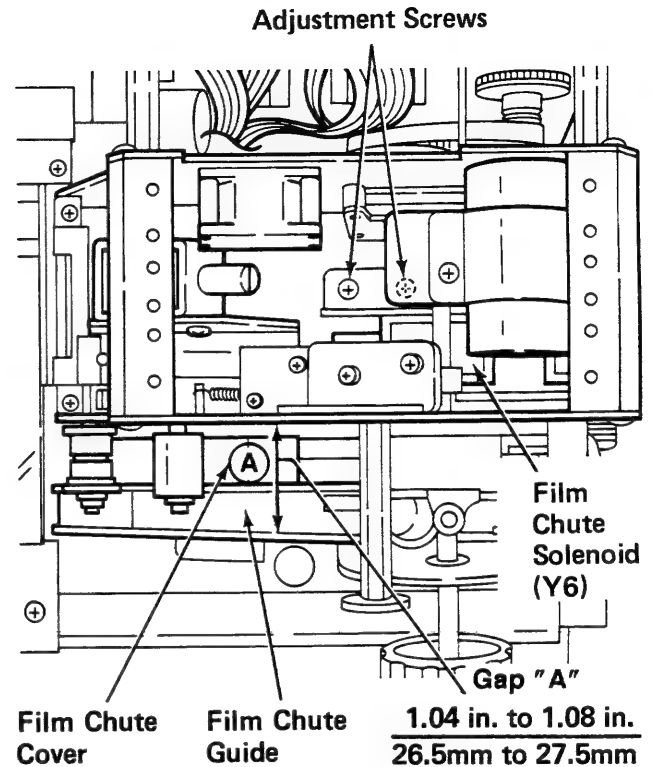

Figure 3-7A
7. Measure a 26.5 mm to 27.5 mm (1.04 in. to 1.08 in.) gap at point A (Figure 3-7A) between the Metal Plate and the inside wall of the Film Chute.
2. Loosen the Gap Adjustment Screw and move the Stopper for a gap of 26.5 mm to 27.5 mm (1.04 in. to 1.08 in.) at Point A between the Metal Plate and the inside wall of the Film Chute. See Figures 3-7A and 3-7B.